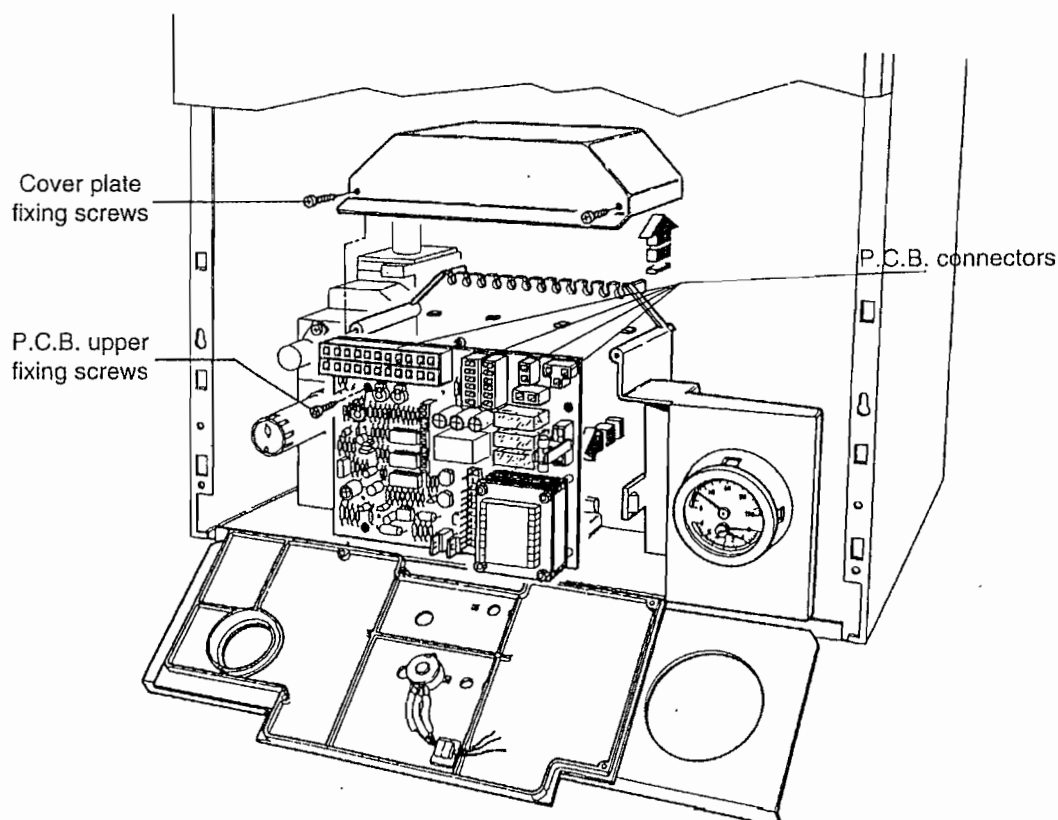

Fig. 39
- b) Unscrew two fixing screws on the P.C.B. top cover plate, lift and disconnect all connectors from P.C.B. (fig. 39).